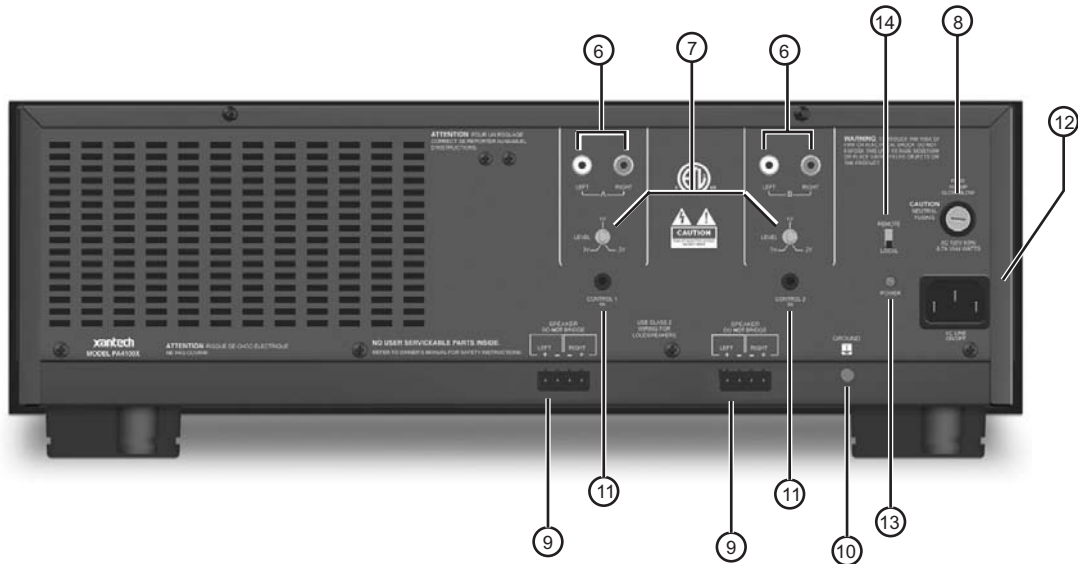

FIGURE 3 – PA4100X REAR PANEL - FEATURES AND FUNCTIONS
PA4100X does not turn OFF when both REMOTE input voltages go to 0 Volts. The Logo stays illuminated.	Be sure that the CI Switch (item 14, Fig. 3) is set to the CI ON (UP) position.